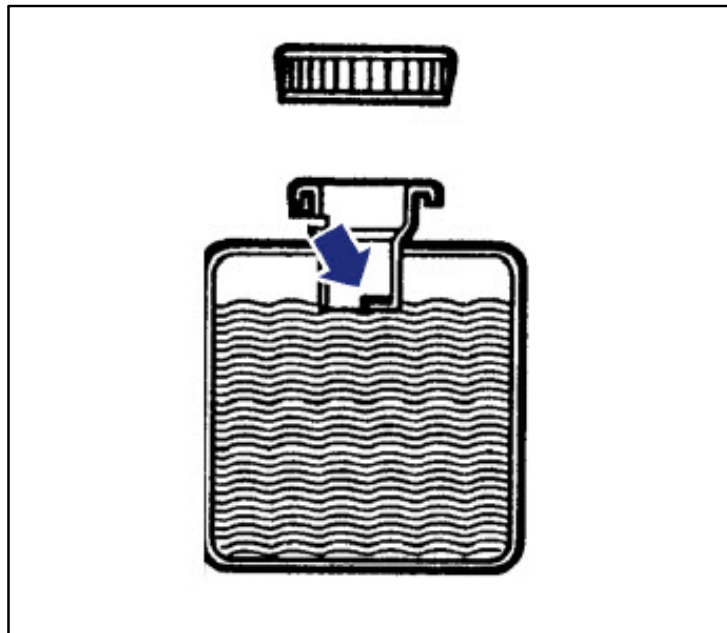

Figure 1: Engine coolant – Level check
1. Turn radiator cap counterclockwise to first stop and allow pressure to escape (see Figure 1).
Coolant must be visible at the lower edge of the filler neck on the radiator (Figure 1).